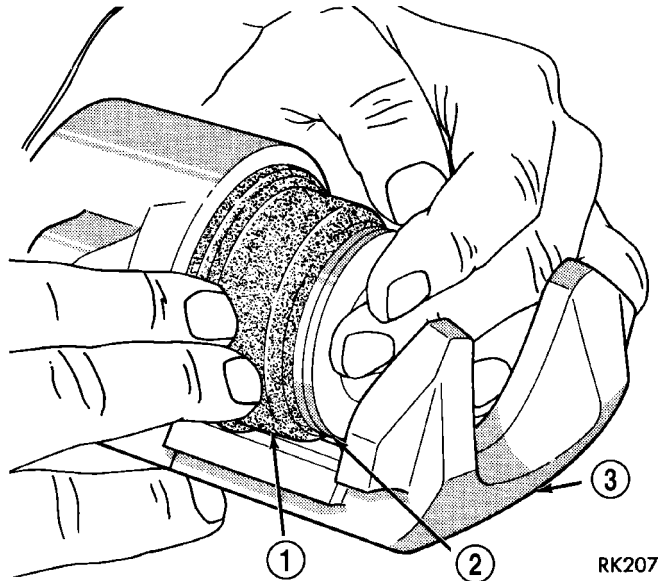

Fig. 55 Installing Piston Into Caliper Bore
(4) Install piston into caliper bore pushing it past the piston seal until it bottoms in the caliper bore (Fig. 55).